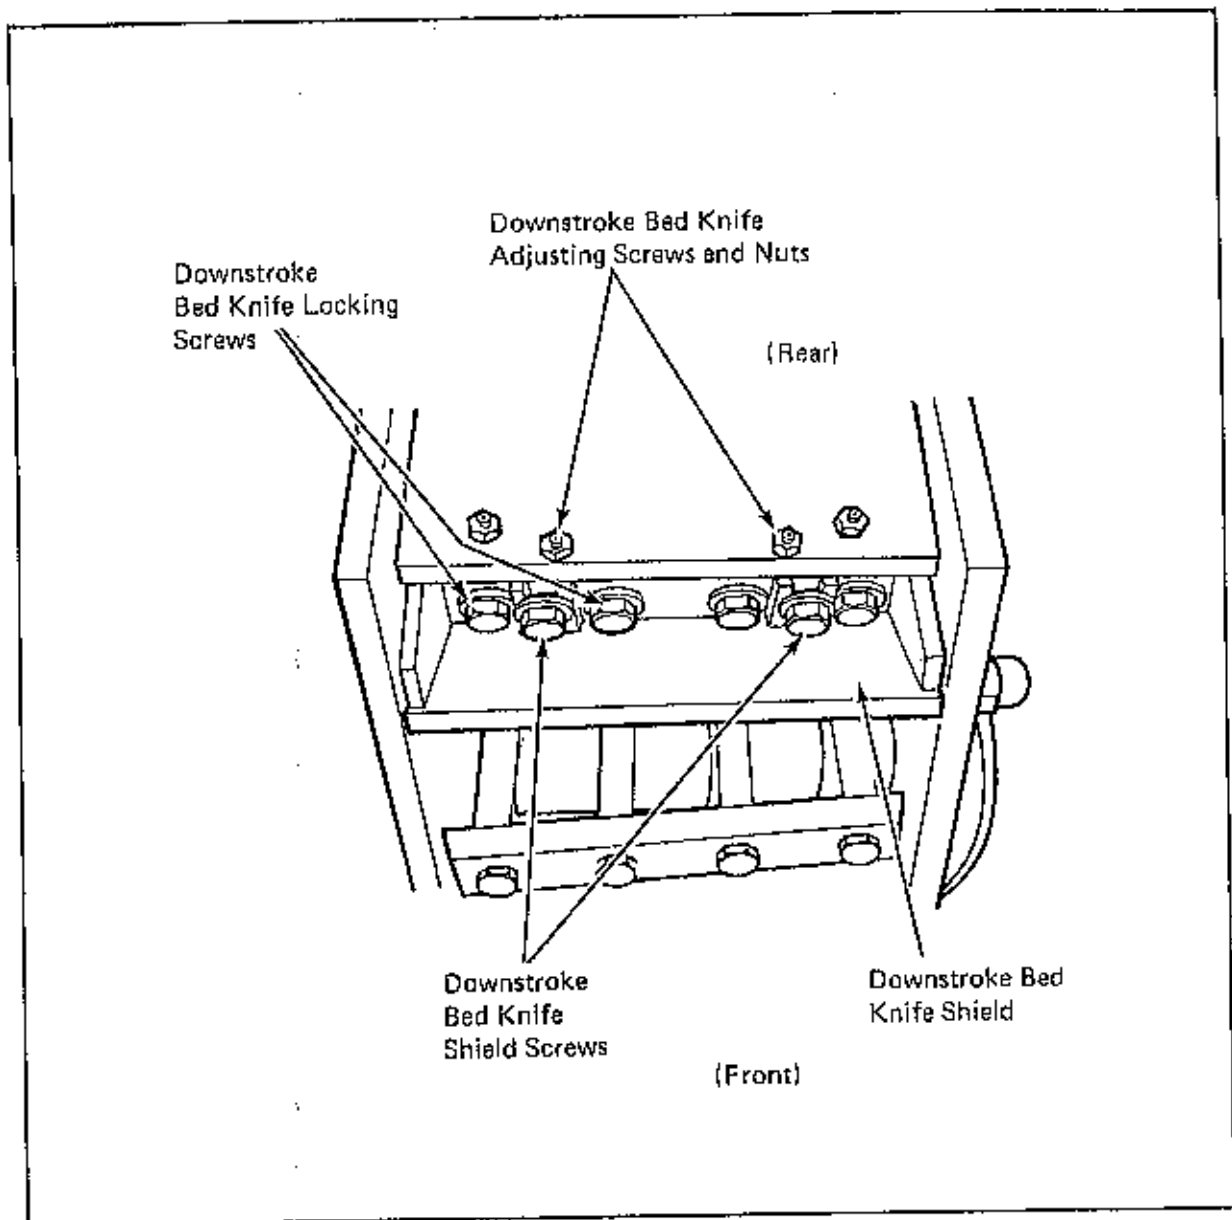

Figure 3-1. Downstroke Bed Knife Settings and Adjustments
A. DOWNSTROKE BED KNIFE (See Figure 3-1)
7. Using the bed knife adjusting screws (see Figure 3-1), adjust the bed knife to the rotor knives, using a feeler gauge, until the clearance between the ends of the rotor knives and the bed knives is, 0.10 mm (0.004") to 0.15 mm (0.006"). This clearance is slightly greater at the center of the knives.
C. BED KNIFE SHIELD (See Figure 3-1)
D. ROTOR KNIFE (See Figures 3-1 and 3-4)